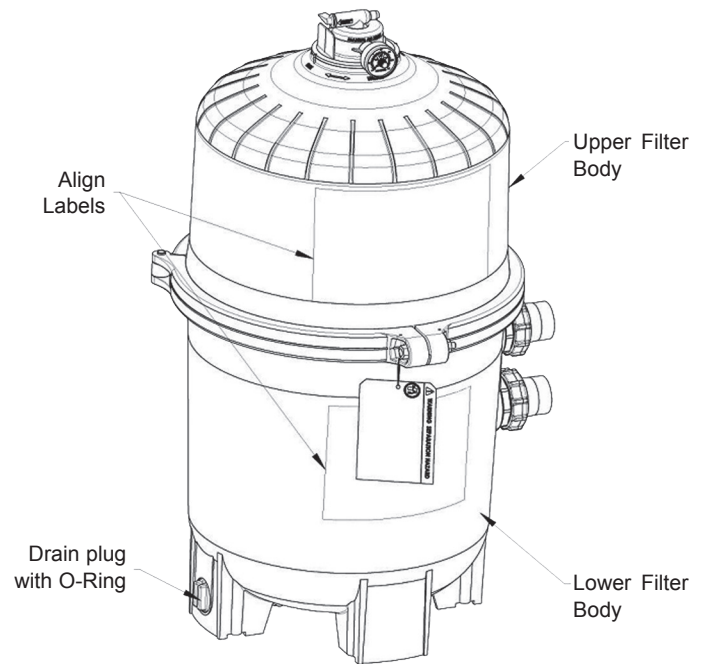

Figure 5
1. Place the metal reinforced seal on the lower filter body (Fig 4). Place the upper filter body on the Hayward DEX2422Z2 metal reinforced seal and lower filter body in a position which allows all operation and safety labels to be clearly visible and the upper body to be centered on the lower filter body. Press down firmly and evenly to set the upper filter body. (Fig 5)
2. Replace the filter clamp around the upper and lower filter bodies. Hold the clamp ends to position the clamp on the filter bodies with the clamp ends adjacent to the safety and operation labels on the filter bodies. (Fig 5)